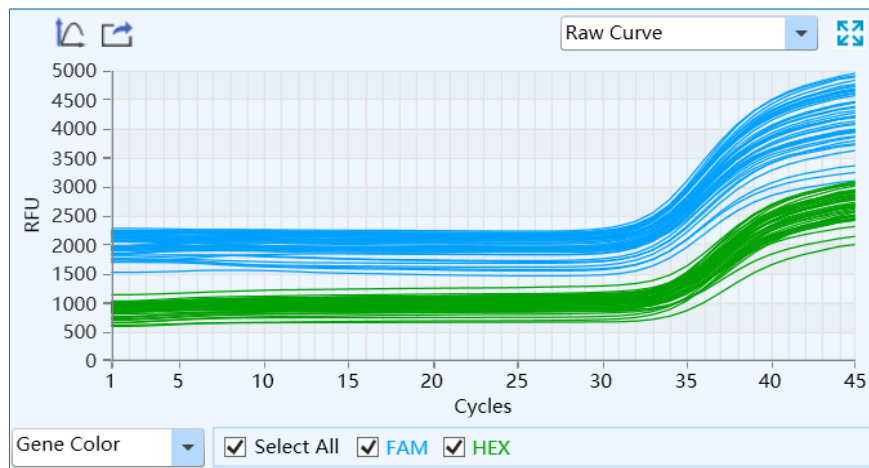

Figure D-9.6. Abs Quant Analysis Interface - Raw Curve Functional Module
V. **Raw Curve**: display the diagram of raw amplification curve without subtract baseline, as shown in figure D-9.6. The parameters and function keys of raw curve functional module are same with those of amplification curve functional module.